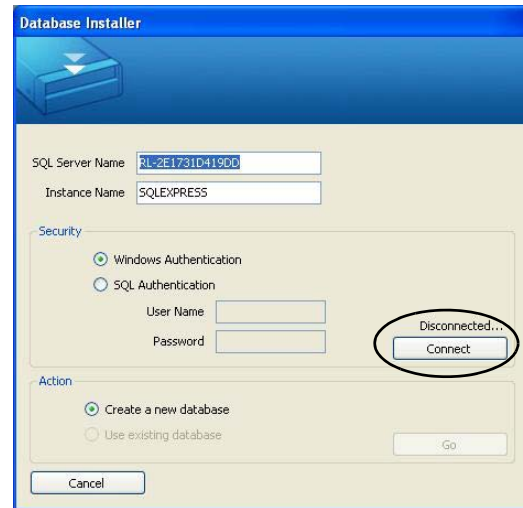

Figure 2. Database Installer screen (disconnected)
3. Follow the on-screen steps until you reach the Database Installer shown in Figure 2.